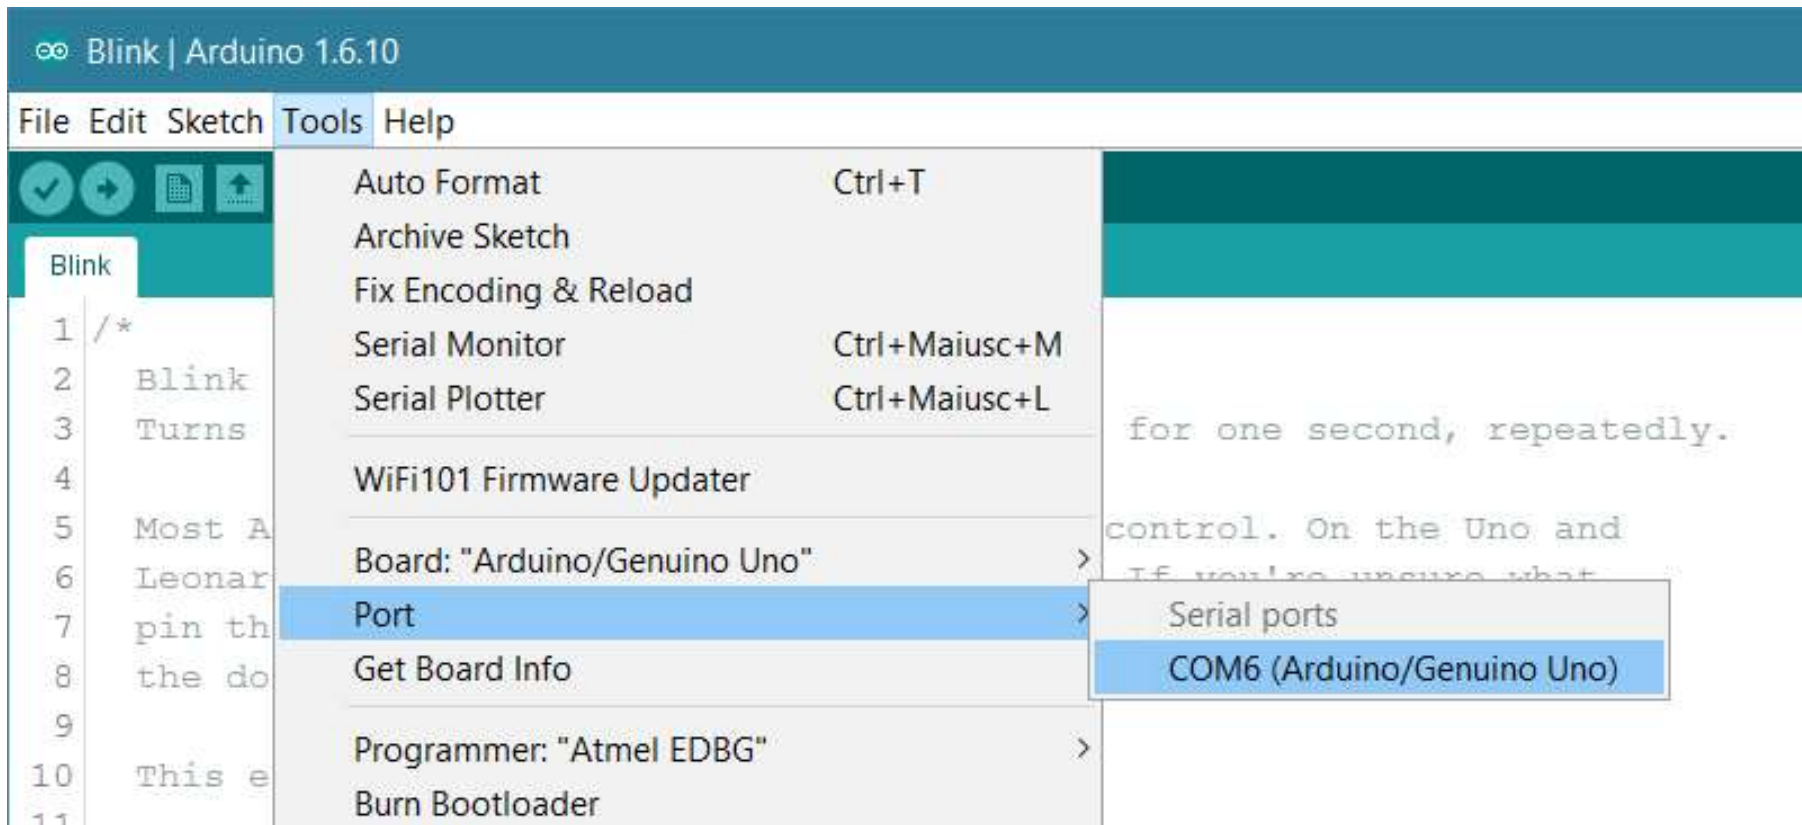

Figure 7.4 : Selecting the Right Port
- Go to Tools->Port and select the right port as shown in the figure 7.4.